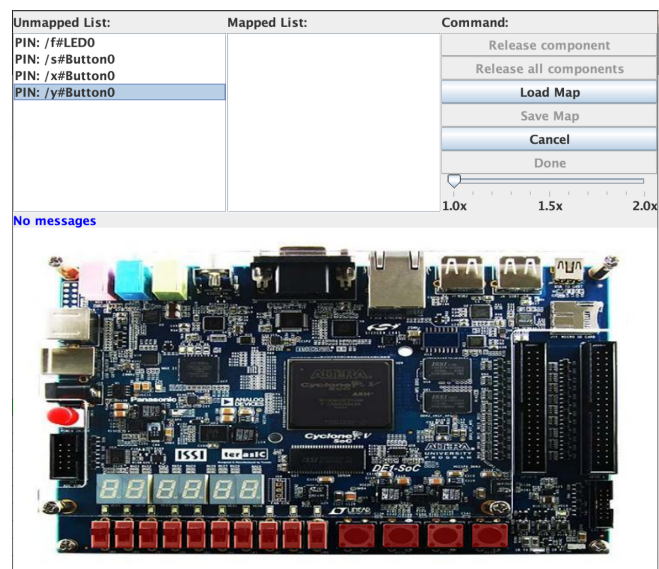

Figure 2.8: The board mapping window
11. Click on **Execute** under **Action method**. A window should open (Figure 2.8).